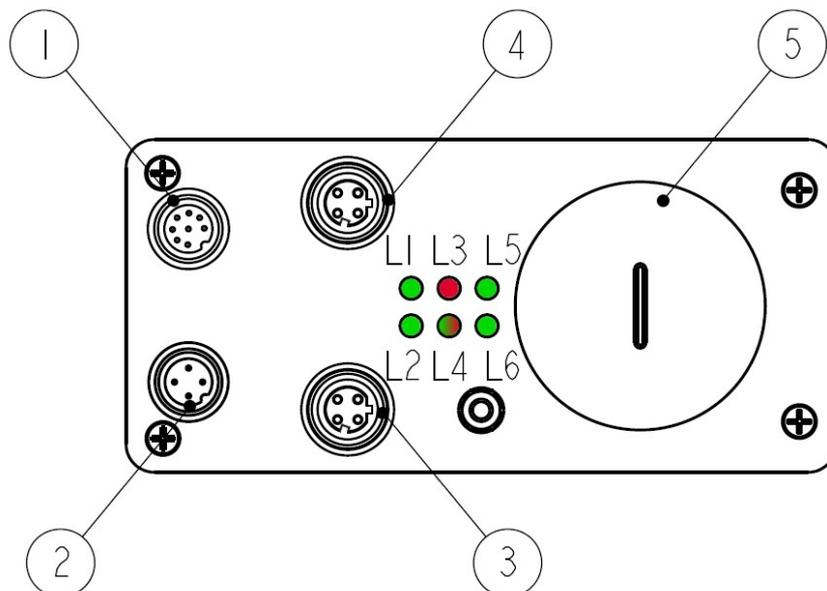
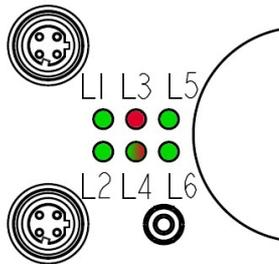

Figure 4: Connectors and diagnostic LEDs
Figure 6: Diagnostic LEDs
4.2 Connectors (Figure 4 and Figure 5)
4.3 Diagnostic LEDs (Figure 4 and Figure 6)